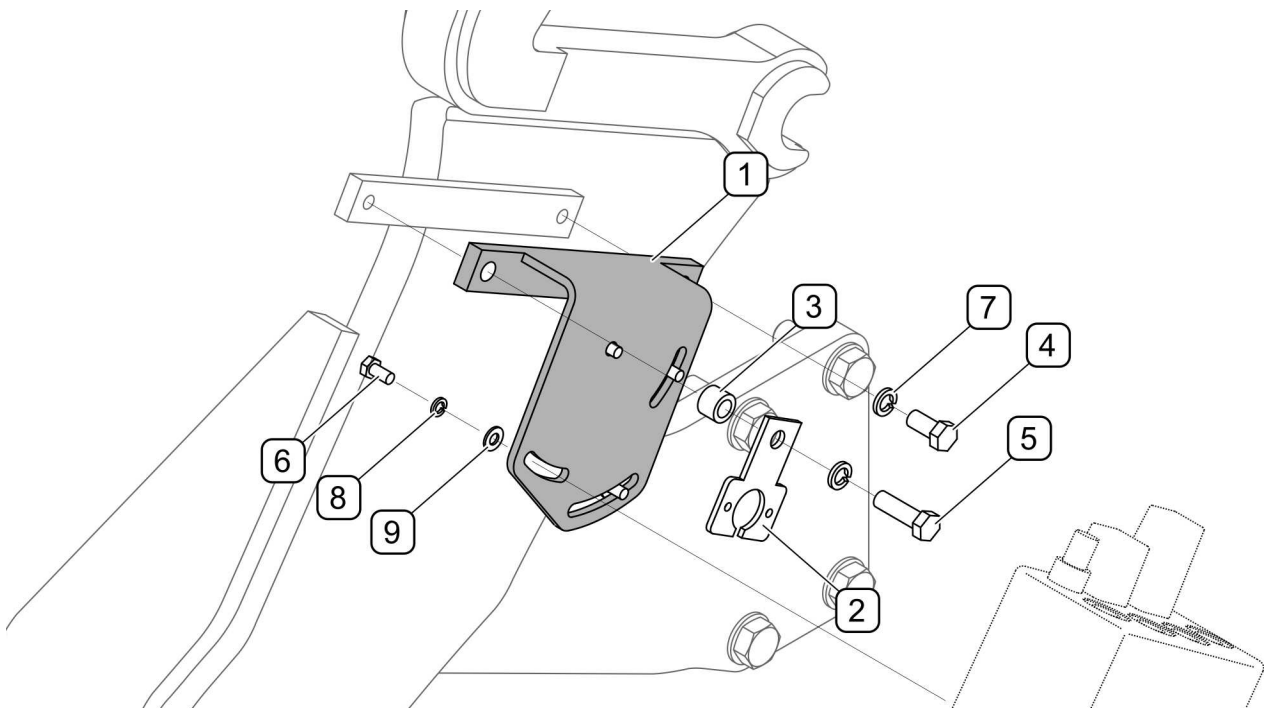

FIGURE 4.3. Installation of the distributor bracket to the support frame
- (1) - distributor bracket;
- (2) - electrical socket support;
- (3) - sleeve;
- (4) - M12x25 screw;
- (5) - M12x40 screw;
- (6) - M8x16 screw;
- (7) - Z12.2 spring washer;
- (8) - spring washer Z8,2;
- (9) - 8-100HV washer;
Attach the hydraulic distributor to the bracket (1), then screw the whole thing in a suitable place on the right side to the loader support frame, together with the electric socket bracket (FIGURE 4.3).